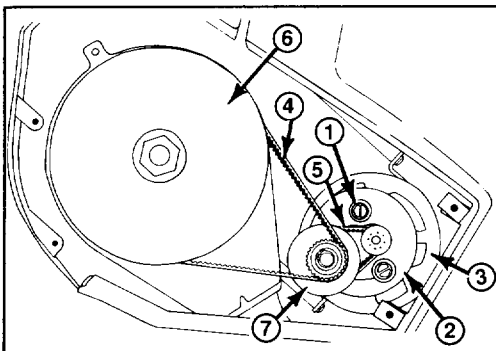

Figure 13
1. Remove the (5) screws securing the left side plate to the snowthrower frame. Remove side plate and skid.
2. Remove large belt by slowly walking (sliding) it off small pulley (Fig. 13).
4. Belt tension will decrease allowing the motor and pulley assembly to rotate clockwise, simplifying belt removal. Slip belt off large pulley (Fig. 13).
4. Belt tension will decrease allowing motor and pulley assembly to rotate clockwise, simplifying belt removal. Slip belt off large pulley (Fig. 13).
5. Loosen (do not remove) the (2) 5/16" socket head screws on the motor mounting plate (Fig. 13). This allows the small pulley to move simplifying small belt replacement.